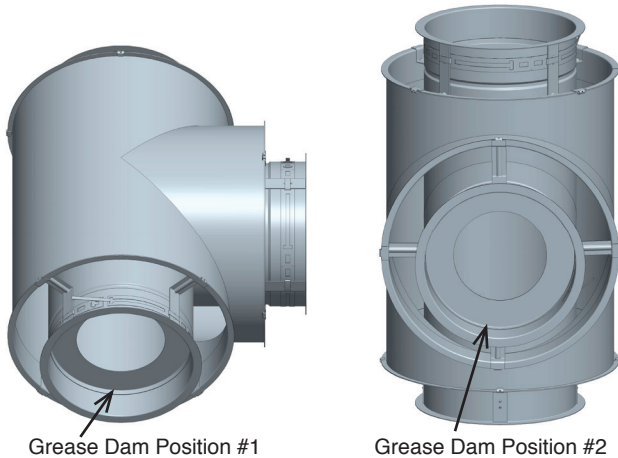

Figure 93a - Grease Dam Position #1 **Figure 93b - Grease Dam Position #2**
To comply with the NFPA 96 requirements, the T90D# is comprised of a T90 equipped with a 1 1/2" wide circular "donut" welded in place (serve as a dam) at any access port and must be closed with a Tee Cap (TC) or a No Tool Tee Cap (NTTC). The location of the access port in the Tee is dependent on the orientation of the tee in the final installation. Access port location is coded as shown in **Figure 93a** and **Figure 93b** for the two options.